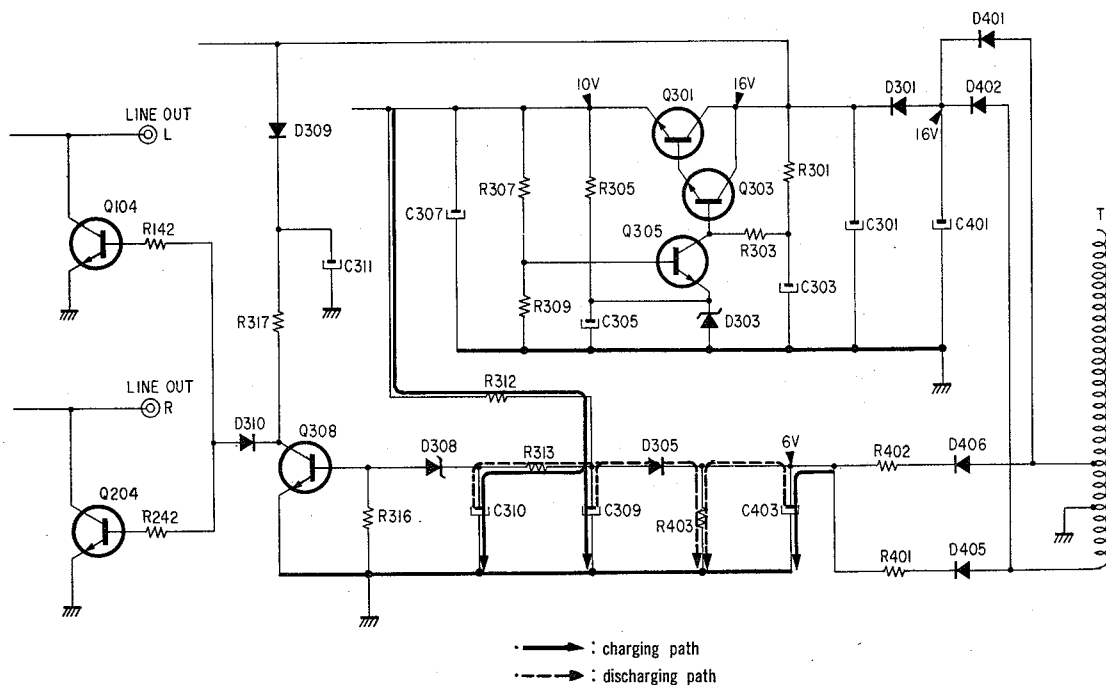

Fig. 1
Figure 1 shows the circuit to mute LINE OUT until power ($\pm 10V$) gets sufficiently stabilized after the power switch is turned on. Muting is also performed when the power switch is turned off.
1. LINE OUT Muting Circuit (See Fig. 1)